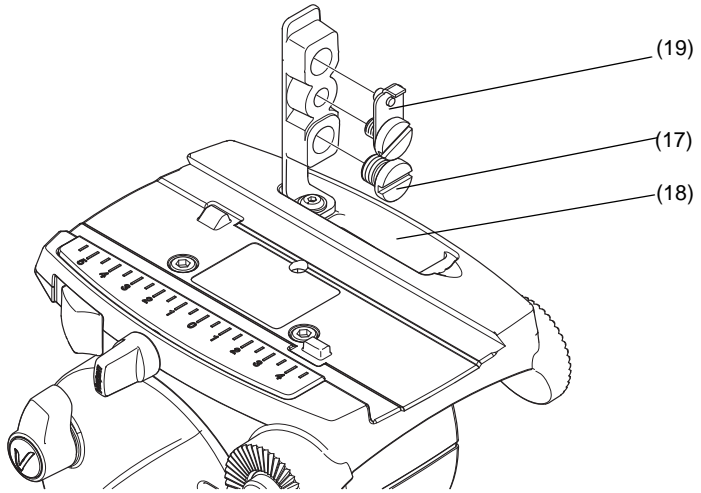

Fig. 6 Camera screw storage compartment
Open the camera storage compartment (18) by lifting the cover upwards and remove the 1/4 in. screw and pin adaptor (19) (Fig. 6).